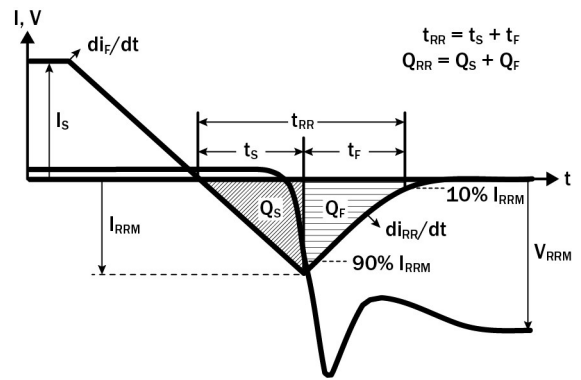

Figure 17. Diode Recovery Waveform
- Dynamic on-resistance; see Figures 17 and 18 for test circuit and conditions